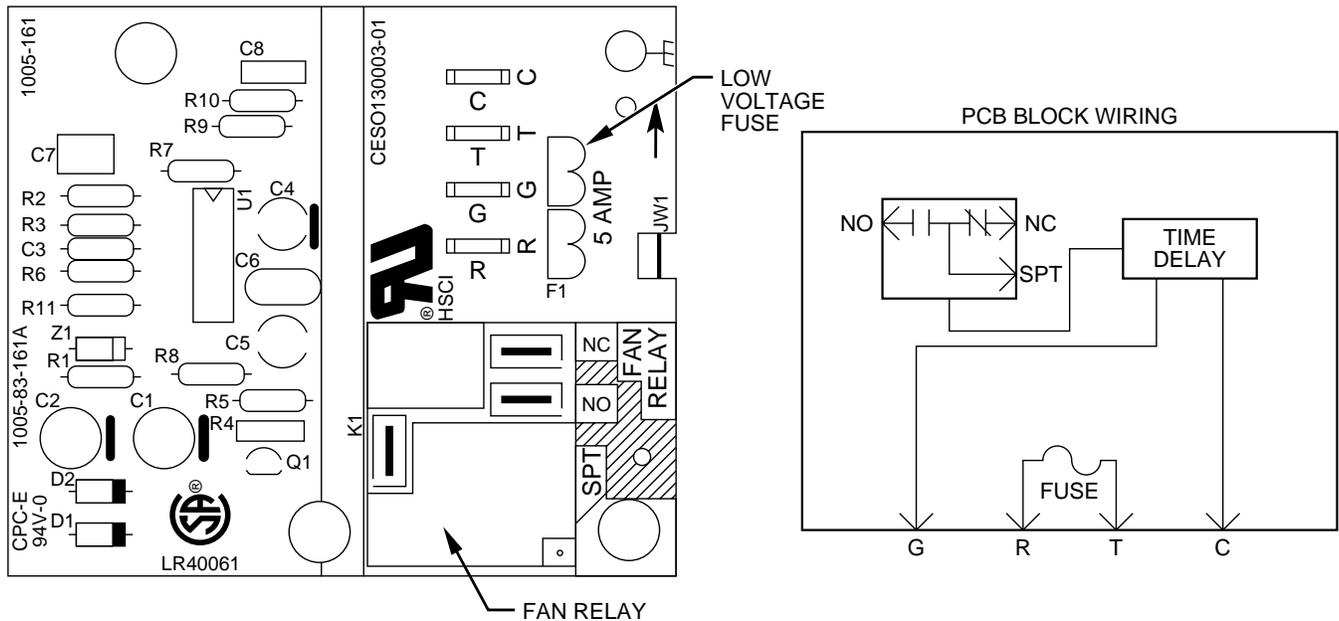

Fig. 29—Fan Coil Printed Circuit Board (CES013C00-00,01 / HK61EA002)
Layout of the actual PCB is depicted in Fig. 29.
2. Check output voltage of transformer secondary side R (red) and C (brown). Be sure transformer output is between 18 and 30 vac. If transformer output is incorrect and transformer is receiving correct input voltage (208v or 230v), then transformer needs to be replaced with recommended transformer. If no problem exists with transformer secondary, proceed to items 3 and 4.
3. Check low-voltage fuse shown in Fig. 29. If fuse is blown, replace it with an identical 5-amp fuse. The transformer cannot supply power to board with fuse blown or loose. If fuse blows when unit has power applied to it, the system most likely has 1 of the following problems: